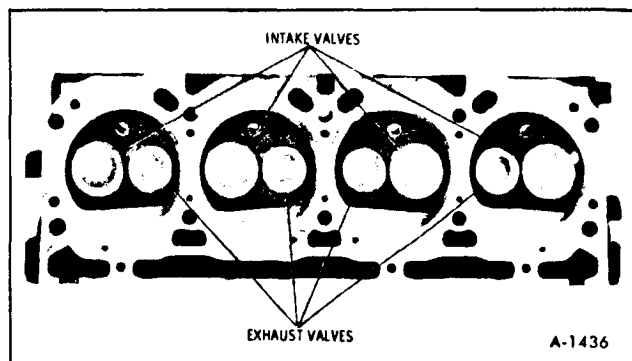

Figure 24—Valve Location
5. Remove valves. Keep valves separated so they can be installed in their original locations. See Figure 24